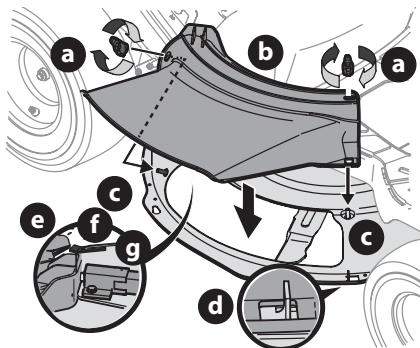

Figure 8
1. Remove the wing knobs (a) installed on the mowing deck and retain for later installation (Figure 8).
2. Install the deck chute (b) into the discharge opening on the deck. The rear of the chute should be under the tab (f) on the rear deck bracket (g). The studs (c) on the deck surface will fit through the holes on the upper portion of the deck chute. The small tab (d) on the deck lip area will fit through the square cutout on the lower portion of the deck chute (Figure 8 on page 10).
IMPORTANT! Make certain the upper-rear portion of deck chute (b) is depressing the safety switch (e) located on the deck surface and under the tab (f) on the rear deck bracket (g). The blade(s) will not start without the deck chute (b) properly in place (Figure 8 on page 10).
3. Secure the deck chute (b) by tightening the wing knobs (a) removed in Step 1 (Figure 8 on page 10).